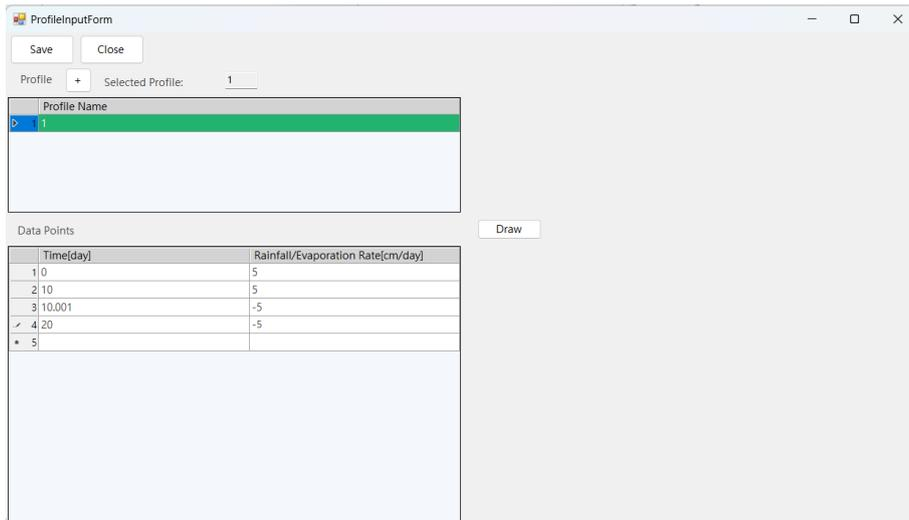

Figure 1.43. ProfileInputForm window.
16. By clicking the 'Edit' button, the 'ProfileInputForm' window will pop up. To input the 'Profile', click the button . Because there's a rainfall of 5 cm/day for the first ten days and a potential evaporation of 5 cm/day for the second ten days in Benchmark problem 1, enter the values for 'Time' and 'Rainfall/Evaporation rate' as shown in Figure 1.43. Then, click the 'Save' button to close the 'ProfileInputForm' window, and click the 'Save' and 'Close' buttons to exit the 'Initial/Boundary/SourceSink' window.